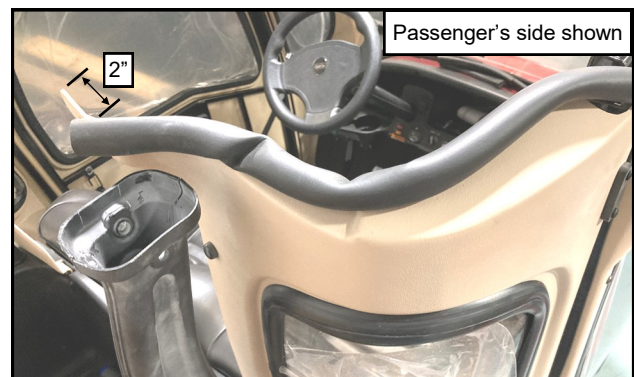

Fig. 4.3 (Rear Cab Rubber)
- 4.3 Install the supplied 1" side bulb rubber onto the rear plastic panels of the cab, with the bulb facing up/out. Start the rubber about 2" from the rear, inside corner of the panel and press onto the plastic panel heading forward. See Figure 4.3.